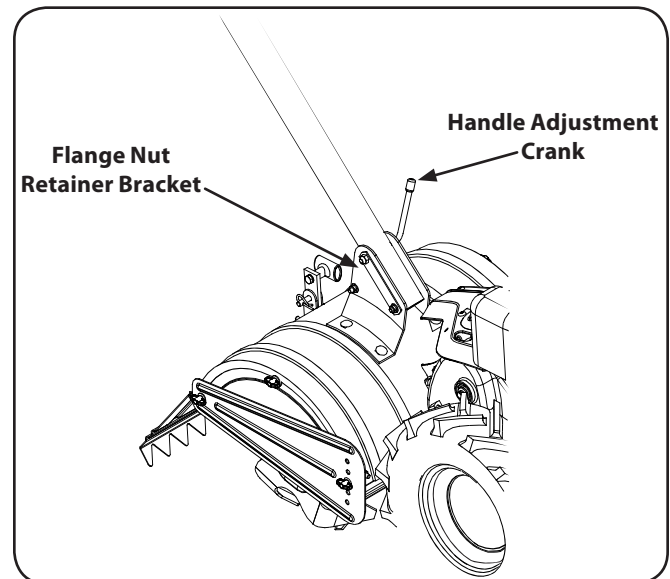

Figure 3-4
4. Place the hex opening of the flange nut retainer bracket over the flange nut securing the handle adjustment crank and install the lock nut on the lower shoulder bolt. See Fig. 3-4.